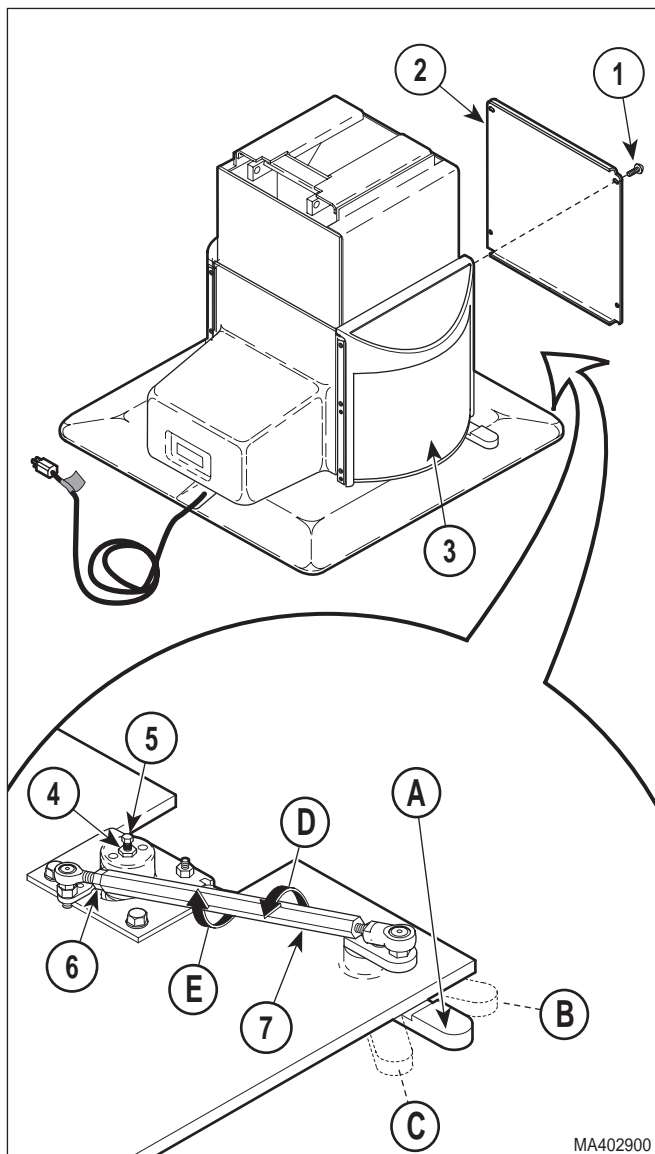

Figure 4-34. Brake Adjustment
- (1) Raise TABLE UP function all the way up.
- (2) Unplug table power cord from outlet.
- (3) Remove four screws (1, Figure 4-34) and front outer shroud (2) from left and right hand outer shrouds (3).
(4) Move ROTATION LOCK / UNLOCK lever (A) to UNLOCK (C).
(5) Loosen nut (4) fully.